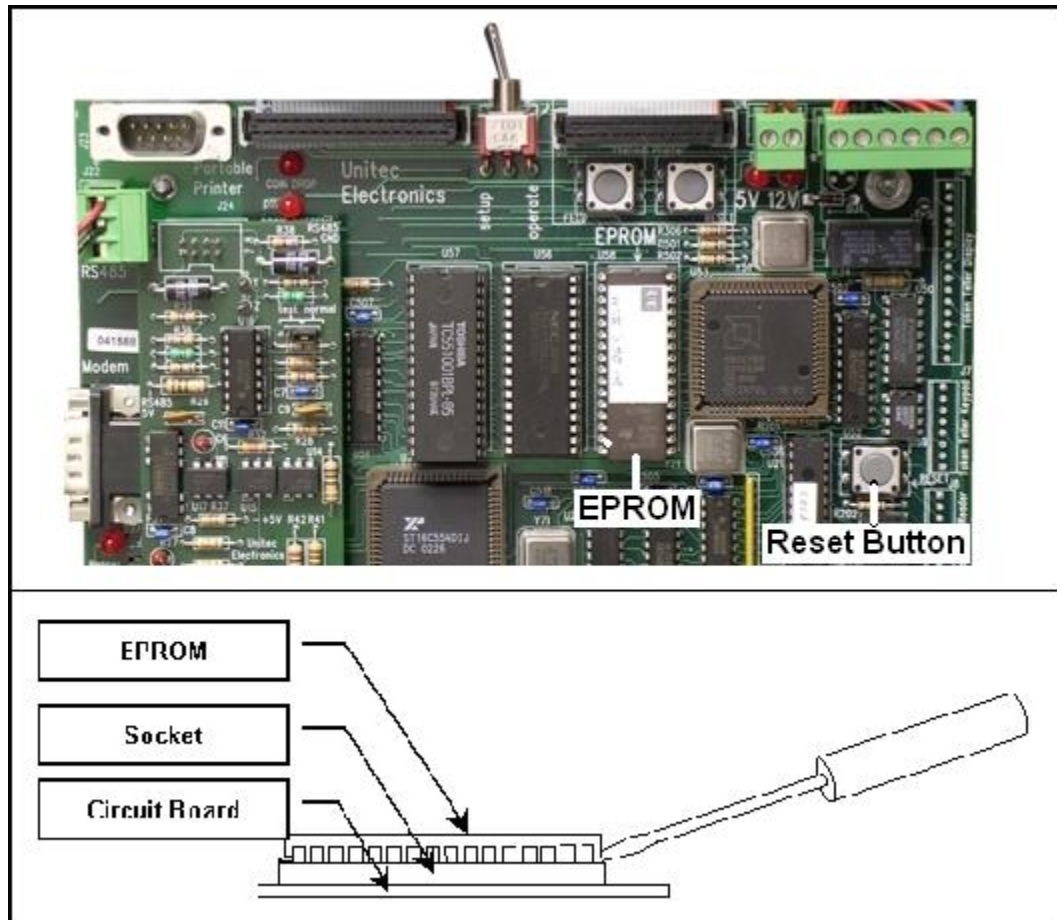

Figure 9. Locating the EPROM and Reset System Memory Button
1. Remove the existing EPROM located at connection U58 on the CPU board (see Figure 9) by inserting a small flat-blade screwdriver between the EPROM and the socket and prying it off. Be careful not to damage the socket or the circuit board.